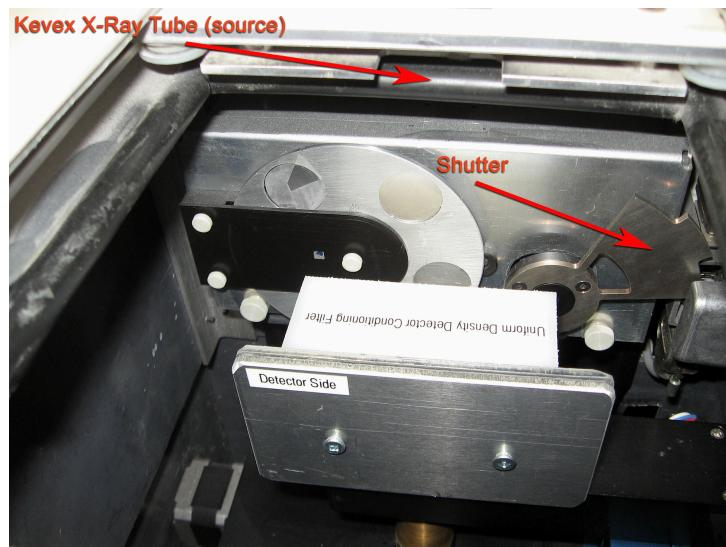

Figure 5: Inside the MS Scanner
- 7.4.2.2. Lift the “Uniform Density Detector Conditioning Filter” and take it out (see Figure 5).